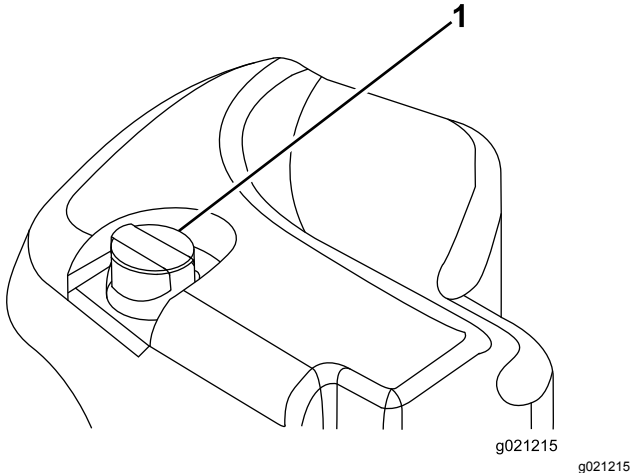

Figure 30
2. Clean area around filler neck and cap of hydraulic tank (Figure 30). Remove cap from filler neck.